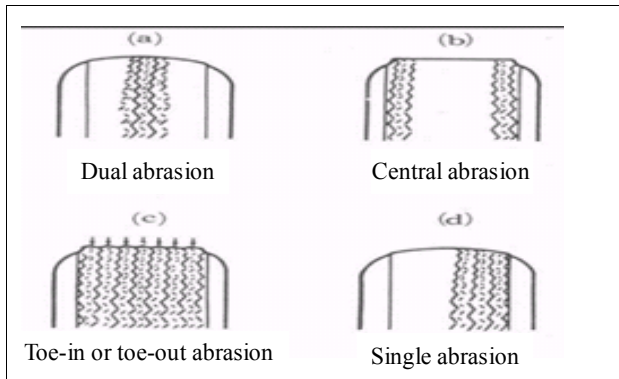

Fig.325 Tire abrasion
(1) Check the depth of the rest tread. See Fig. 325 for standard tread.